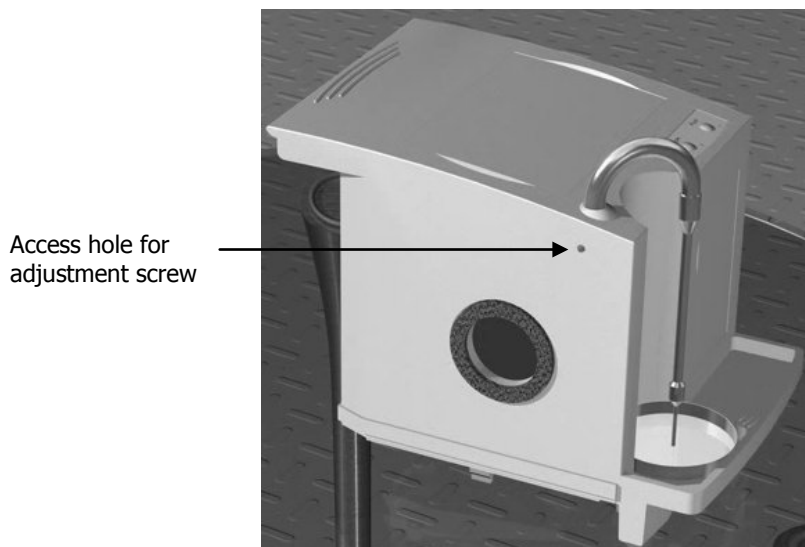

Figure 13 Probe friction adjustment screw access hole
2. Slide the accessory out of the instrument sufficiently to gain access to the probe friction adjustment screw access hole on the side of the accessory, as shown in Figure 13.